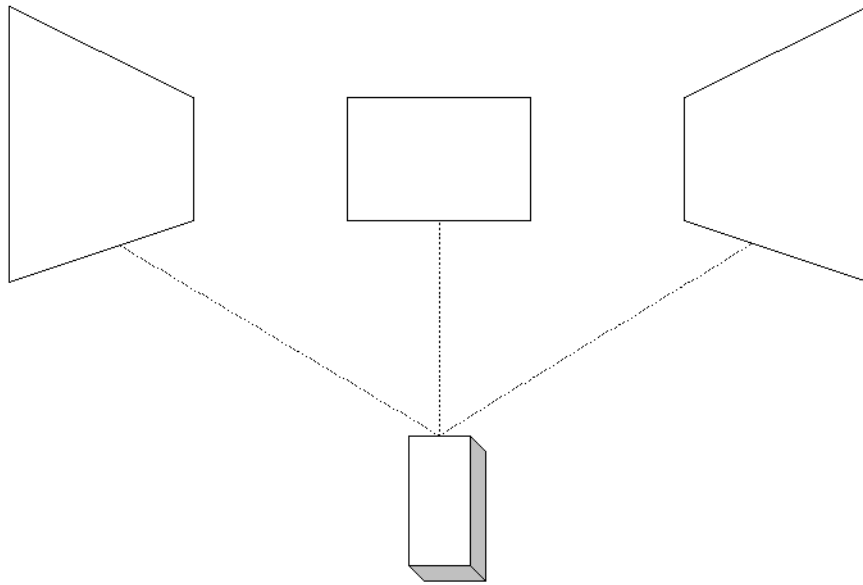

Figure 6: Projected Image with Lens Shift of 0
- c. If the bottom of the image begins to show trapezoidal (keystone) distortion (see Figure 6), the lens shift value is 0.